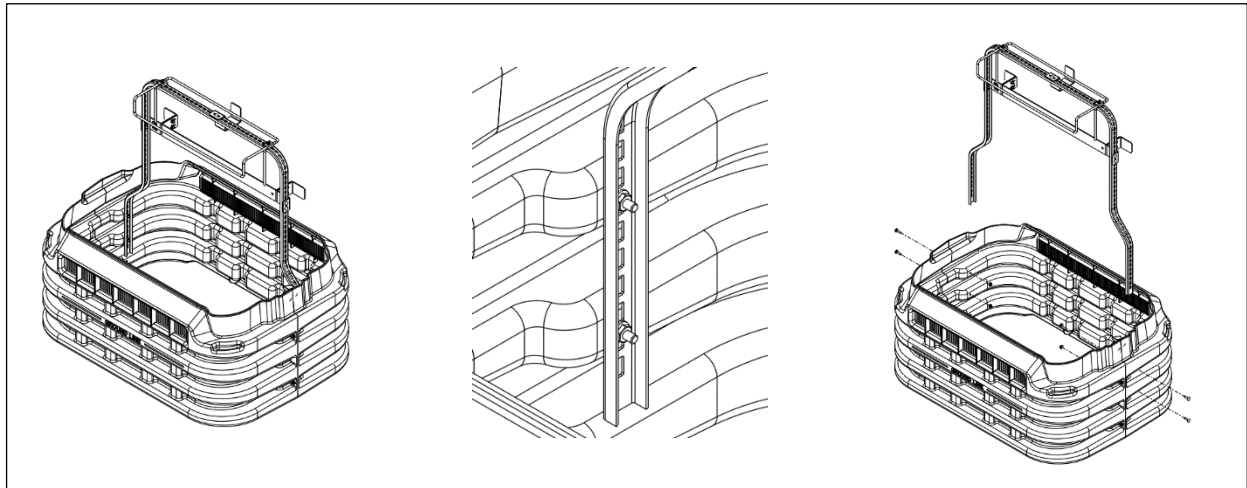

Figure 3 Remove Hoop Bracket
2. Remove the hoop bracket from the Z14 base using a 7/16" tool. Set the hoop bracket and the mounting hardware aside (Figure 3, four fastening locations shown). Store or discard the Z14 base per company practice.